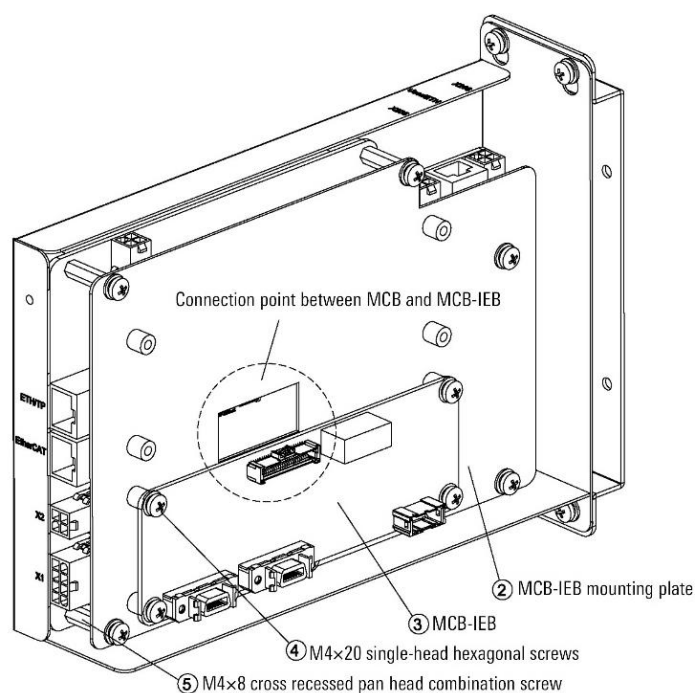

Figure 18-40 Install MCB-IEB
- Step3. Pass the MCB-IEB mounting plate through 5 M4×20 single-head hexagonal screws and 5 M4×8 cross recessed pan head combination screws are fixed on the MCB, and MCB-IEB is passed through 4 M4×8 cross recessed pan head combination screws fixed on MCB-IEB mounting plate, refer to Figure 18-40.